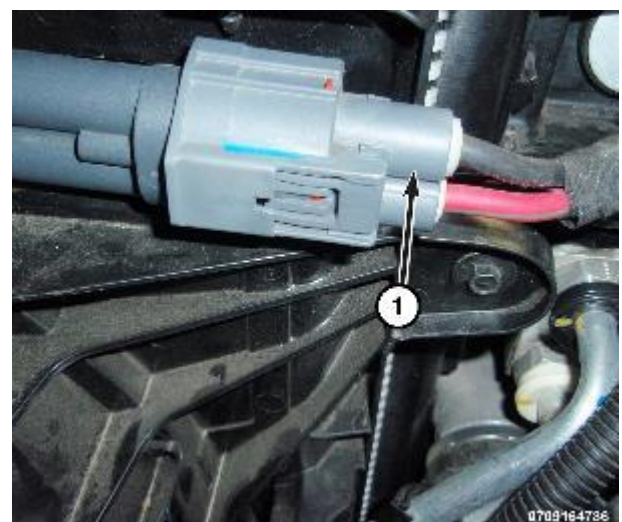

Figure 94 – Fan Electrical Connector
7. Disconnect the cooling fan wire harness connectors (1) and detach the wire harness connector from fan shroud (Figure 94).